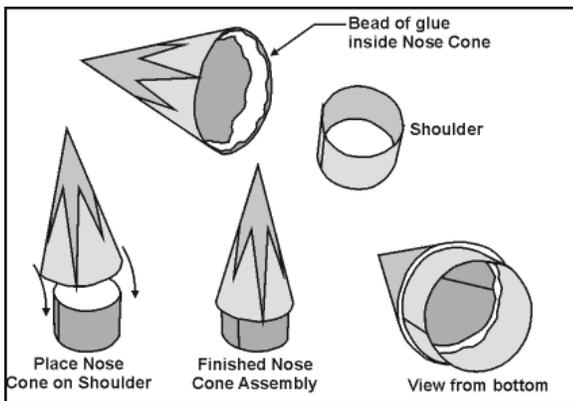

Figure 12
- As shown in **Figure 12**, apply a bead of glue inside the base of the Nose Cone from Step 5. Carefully place the Nose Cone on the Nose Cone Shoulder, as shown, making sure that the Nose Cone is sitting flat and straight on the Shoulder. Refer to the bottom center and bottom right images to see how this assembly should look.